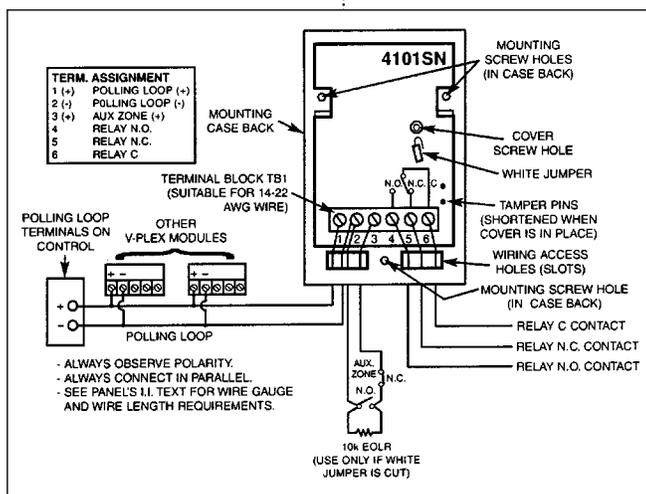

Figure 1
2. Fasten the case back to the wall with three #6 screws (not supplied) through the case back. (See Figure 1. on back page)
2. Make wiring connections as shown (in Figure 1 on back page). When you leave the white jumper intact, the 10k EOLR for the aux zone is internal only. N.O. devices may be used, and these devices must be mounted no farther than 3 feet from the module. In commercial installations, wiring must be mechanically protected with conduit or equivalent.